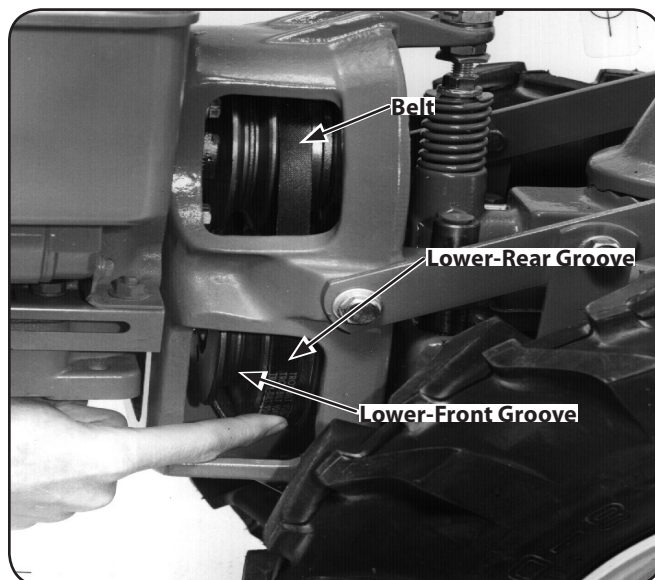

Figure 5-10
- Go to the right side of the tiller and finish seating the belt. See Figure 5-10.